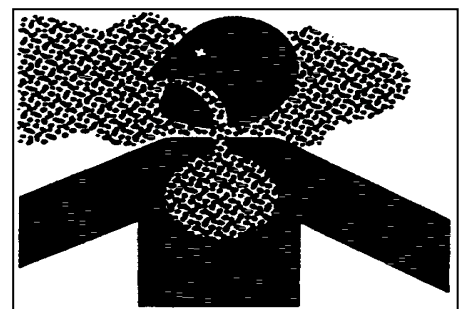

Figure 1.31
- Rub out paint with abrasive paper or wheel, during this work, remember to wear regulated respirator to prevent inhaling dust (As figure 1.31).